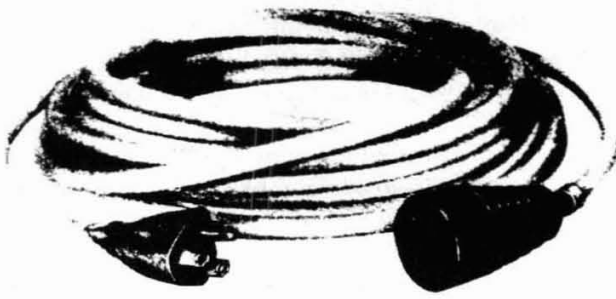

Fig. 6—Extension Cord
**3.05** C and D extension cords shown in Fig. 6 are available for connecting power tools to outlet receptacles remotely located from the work area. These cords, 30 feet in length, have a standard molded male plug at one end and a standard molded female connector body at the other. The C extension cord is wired with 18-gauge conductors while the D cord uses 14-gauge conductors.